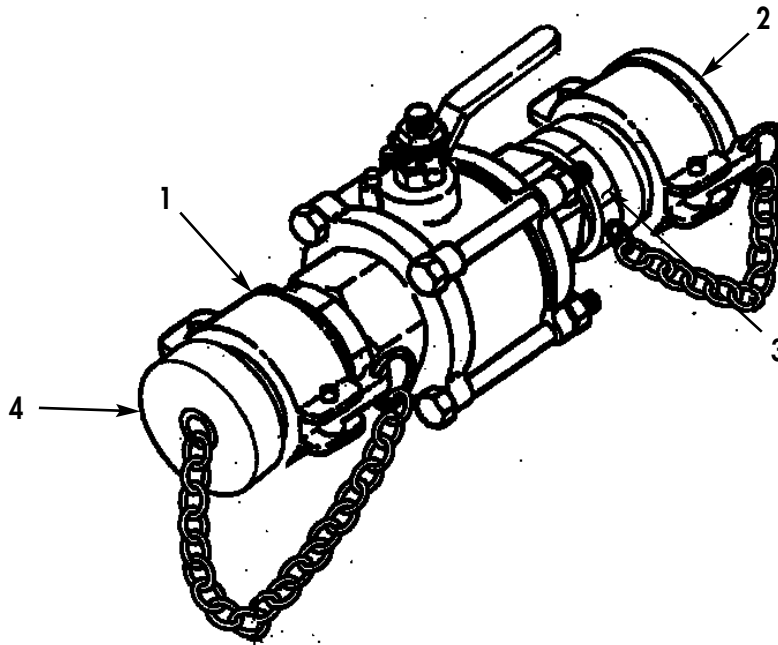

Figure 1. Ball Valve Capped and Plugged.
1. Ensure dust cap (Figure 1, Item 2) and plug (Figure 1, Item 4) are installed securely on ball valve coupling halves (Figure 1, Item 3) and (Figure 1, Item 1).